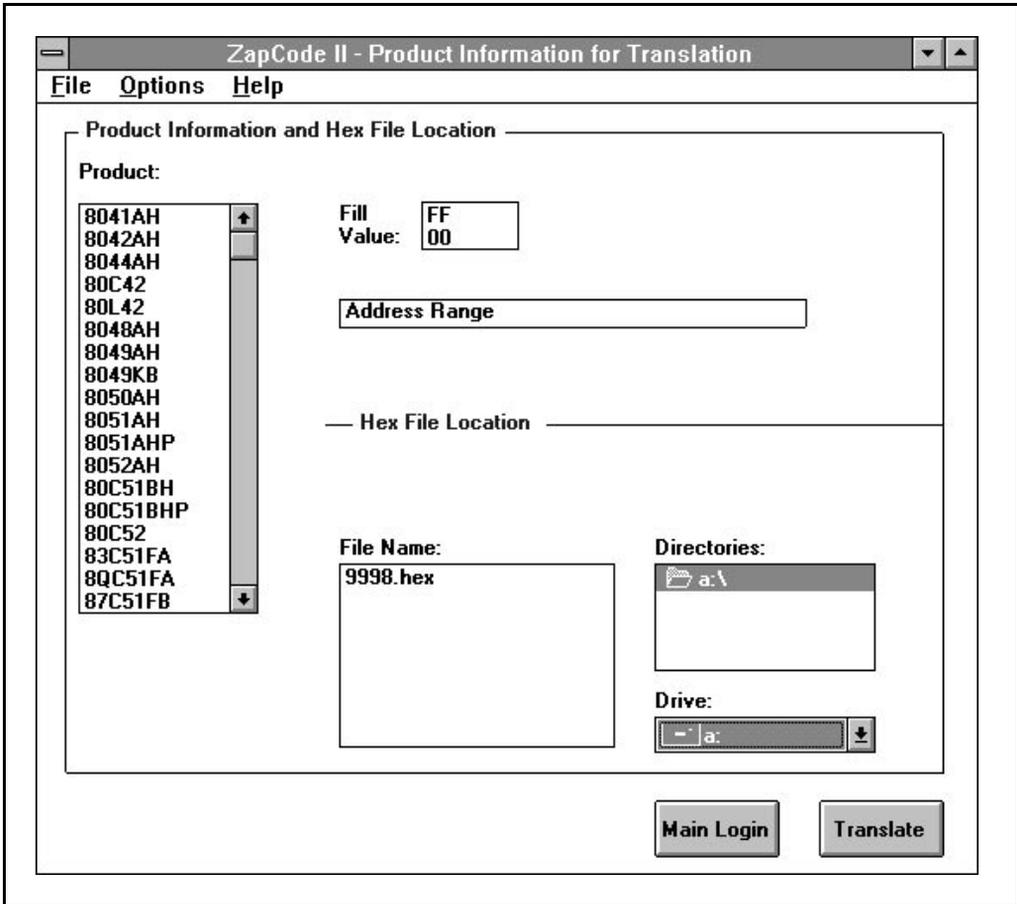
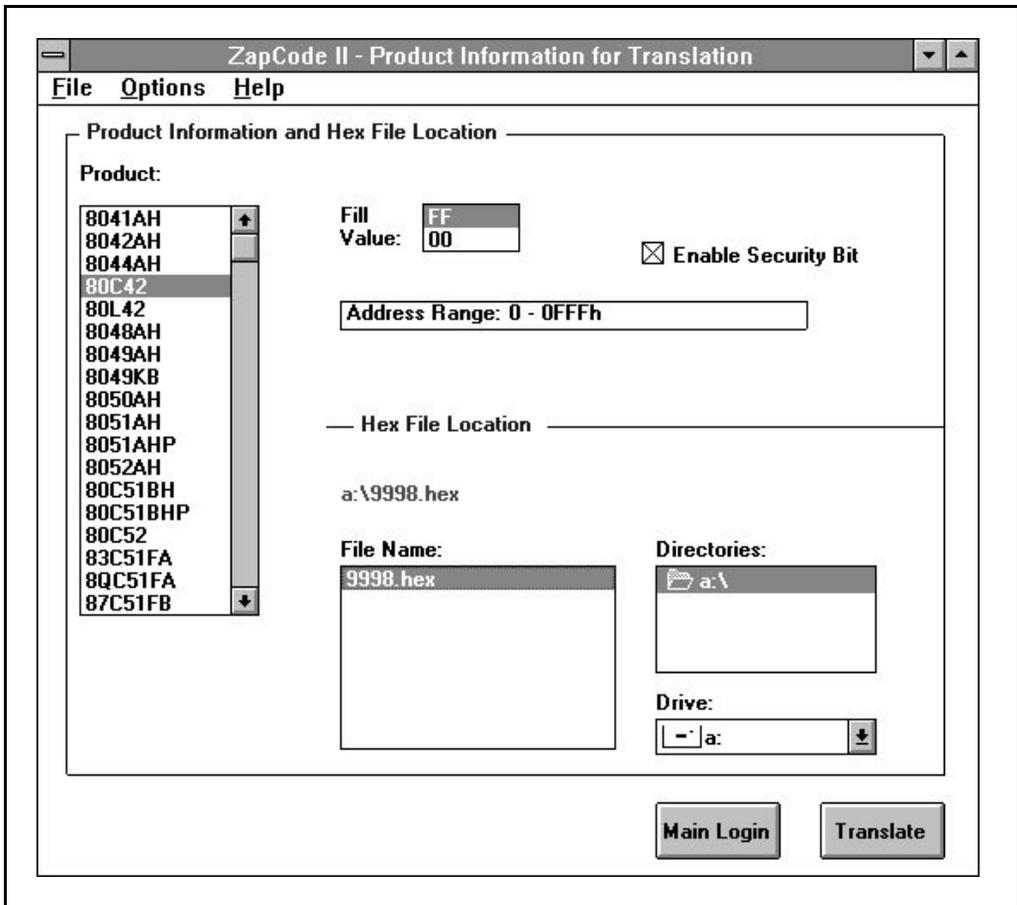

Figure 8-1. Product Information for Translation Screen - Without Security Feature
Figure 8-2. Product Information for Translation Screen - With Security Feature
1. Click on the **Translate Hex File** button on the welcoming screen. The Product Information for Translation screen will display (Figure 8-1). When first opened, this screen does not display the “Enable Security Bit” field. This field appears only after you select a product for which security features are offered. Figure 8-2 illustrates the “Enable Security Bit” field when a product offering security features is selected.
- c. **Enable Security Bit:** Not all Intel products offer security features. If you selected a product that offers security features, an Enable Security Bit box will be added to the screen (Figure 8-2). Click on this box if you want security features enabled for your product option.